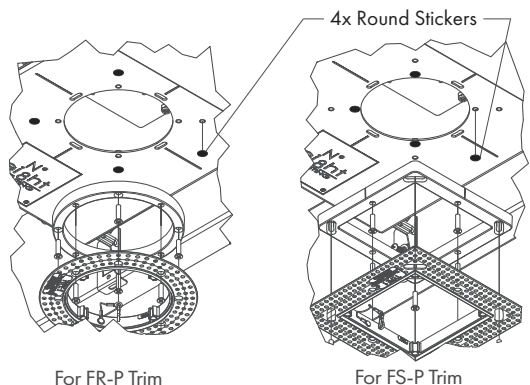

FIG 3.4 Sticker Application
SEE PAGE 3, FIG. 3.4 FOR STICKER INSTALLATION
- STEP 4 Apply Stickers over unused holes and slots as shown to prevent light leaks and maintain airtight standards compliance. No caulking required – **FIG 3.4.**